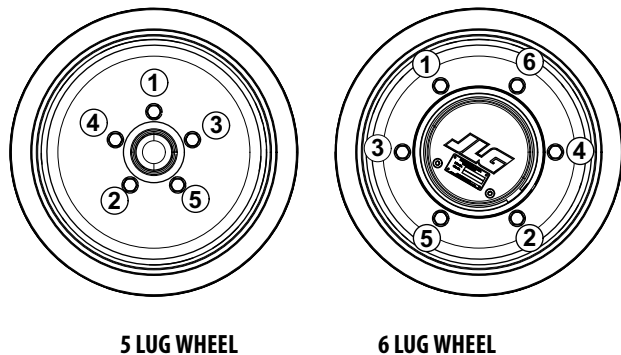

Figure 6-4. Wheel Lug Nut Tightening Sequence
2. Tighten lug nuts in the following sequence. (See Figure 6-4.)